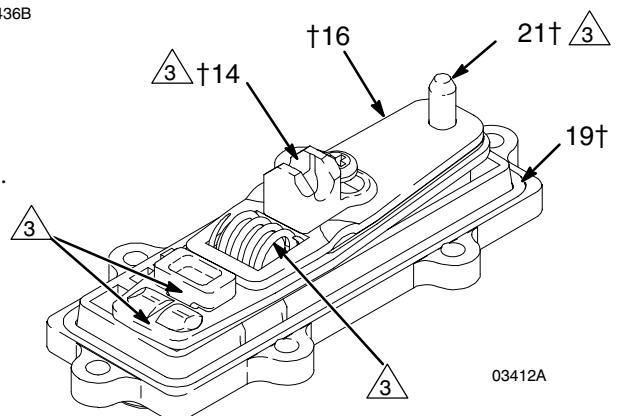

Fig. 10
2. Unscrew the six mounting screws (15) and remove the air valve (A) from the pump. See Fig. 10.
3. Refer to the Valve Plate Detail in Fig. 10. Remove the two screws (10) holding the valve plate (13) to the pump. Use an o-ring pick to remove the valve plate, seal (12), and bearing (9).
4. Apply grease (26†) to the bearing (9†). Install the bearing and the seal (12) in the pump housing (1). Install the valve plate (13) and secure with the two screws (10†), as shown. Torque the screws to 5 to 7 in-lb (0.6 to 0.8 N-m).
6. Apply grease (26†) where shown in Fig. 10.
7. Align the new air valve assembly so the reset shaft (21†) is at the top. Install the valve on the pump, making sure the valve saddle (14†) engages the recessed area on the diaphragm shaft (23). Install the six screws (15) and torque oppositely and evenly, to 8 to 14 in-lb (0.9 to 1.6 N-m).